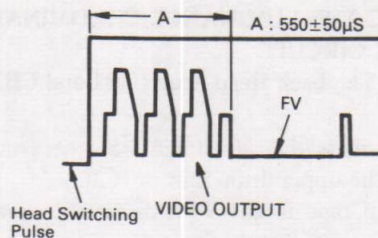

Figure 61.
- ① Place the VTR in the VS-FF (Playback/FF) mode.
- ② Observe TP203 through the oscilloscope. If the head switching pulse is triggered externally, observe this pulse at the positive side.
- ③ Check to see that the artificial vertical sync signal is being inserted as shown in Fig. 61.